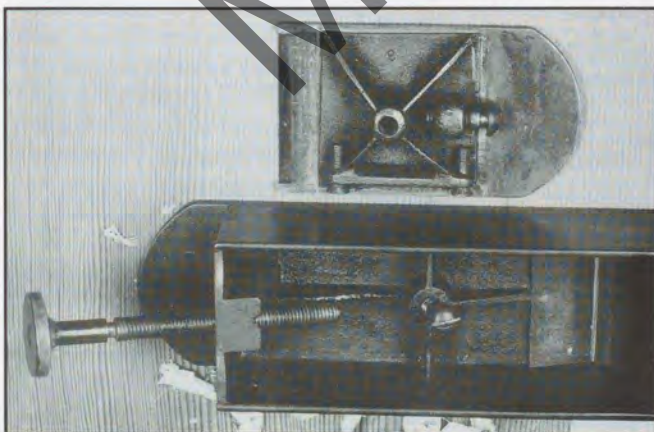

Fig. 6 Type 2 Rear portion of body showing cutting adjustment. Throat plate shown above.
**Body:** The body casting is similar to Type 1 except a vertical cast iron pilaster on the inside of the plane body is used to stiffen the rear wall of the plane instead of a separate T-shaped brass casting. The cast iron pilaster is drilled and threaded to receive the adjustment screw and the rear handle when present. (Fig. 6)
Bailey & Co., Boston, Patented Aug. 31, 1858." (Fig.6)